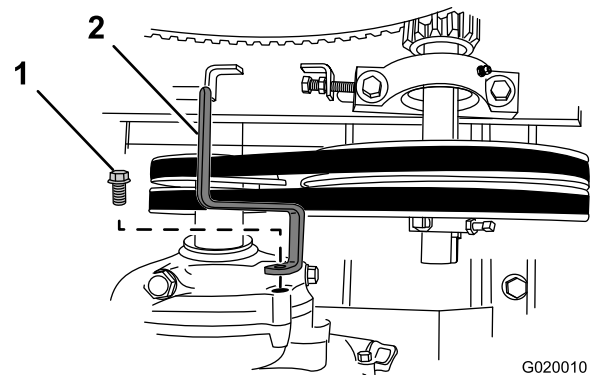

Figure 57
3. Remove the bolt that secures the belt guide to the engine, and remove the belt guide (Figure 57).
- Loosely secure the belt guide to the engine (Figure 57) with the bolt that was removed in step 3 of Removing the Belts \(page 33\).